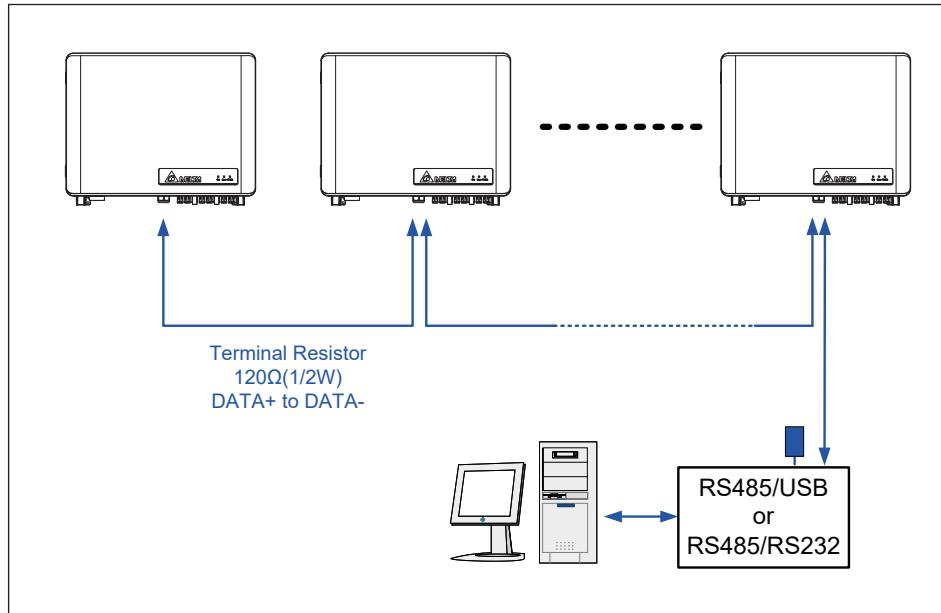

Figure 3-21: Multiinverter connection illustration
- When multiple inverters are cascaded (i.e., "daisy-chained"), only the last inverter in the chain must have its bus termination resistor switched ON. (**Figure 3-21**)